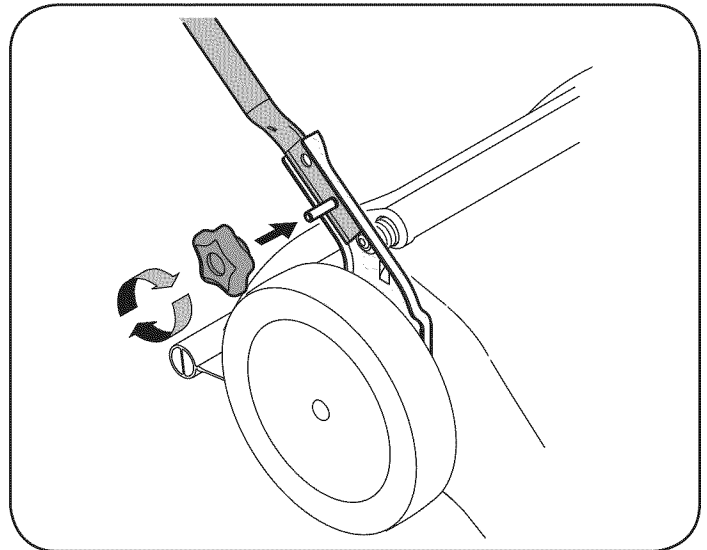

Figure 2
3. Tighten star knobs securing lower handle to handle brackets. See Figure 2. Make certain the lower handle is seated securely into the handle mounting brackets.